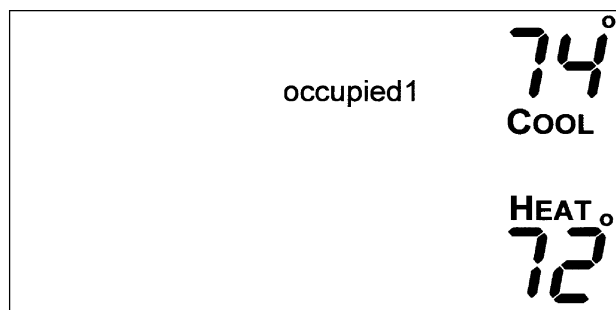

Fig. 5 — Setting Occupied 1 Set Points
1. Enter Programming mode by pressing the Program button. The Occupied 1 annunciator will appear on the thermostat display. See Fig. 5. Use the UP ARROW and DOWN ARROW buttons to set the maximum number of Occupied periods available. The thermostat can be set to 1, 2, or 3. After the number of Occupied periods has been selected, press the Mode button.
99 F (1 to 37 C). Press the Mode button to continue. See Fig. 5.
3. The heating set point for Occupied 1 will be displayed. Use the UP ARROW and DOWN ARROW buttons to raise or lower the heating set point until the desired temperature is shown. The range of acceptable values is 35 to 99 F (1 to 37 C). Press the Mode button to continue. See Fig. 5.